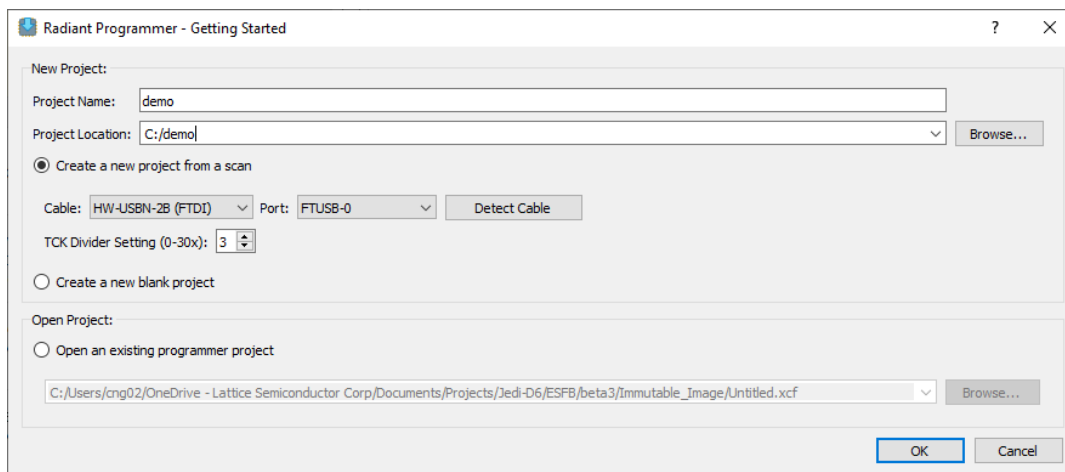

Figure 6.6. Create New or Open Existing Project Window
4. Fill in the necessary information to create a new project or open an existing project. See Figure 6.6.